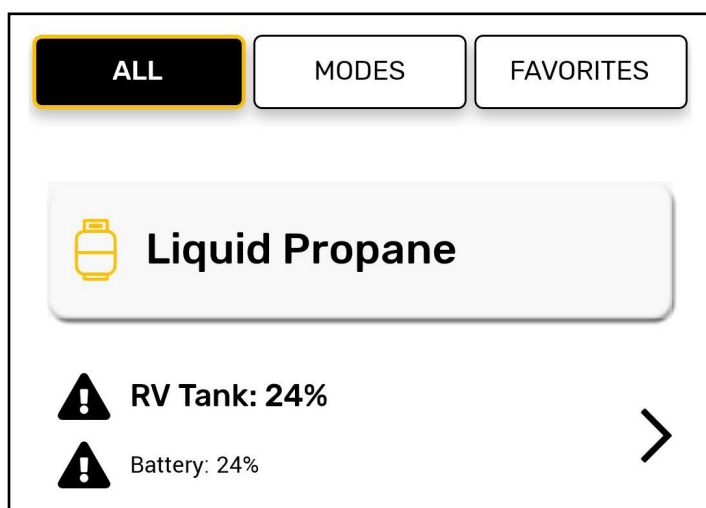

Fig.8
1. Locate the LP Sensor cell in the device library (Fig.8). Open the cell from the arrow.